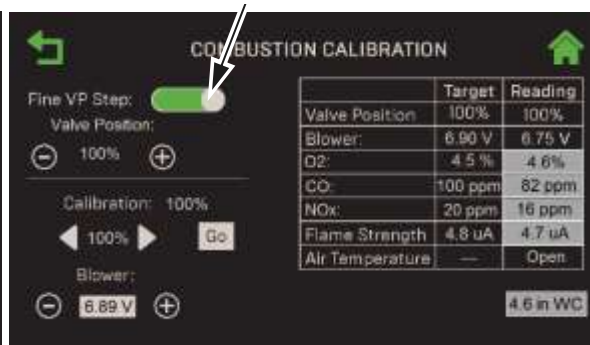

Figure 4-9: Manual Combustion Calibration Screens
17. Compare the combustion analyzer's oxygen (O₂) reading to the O₂ value in the **Reading** column (Figure 4-9). If they differ, go to the **Main Menu → Calibration → Input/Output → Oxygen Sensor** screen and adjust the **O2 Offset** parameter, up to **±3%**, to make the on-board O₂ sensor match the value from the combustion analyzer. If your combustion analyzer is correctly calibrated, and the on-board O₂ sensor cannot be made to match the analyzer, the sensor may be defective and need to be replaced.
21. Compare the measured nitrogen oxide (NO_x) and carbon monoxide (CO) readings to the **Target** values in the Table 4-5 (shown as a reference only). If you are not in a "NO_x-limited" area and/or do not have a NO_x measurement in your analyzer, set the O₂ to the value in the **Oxygen (O₂) %** column in the table below.